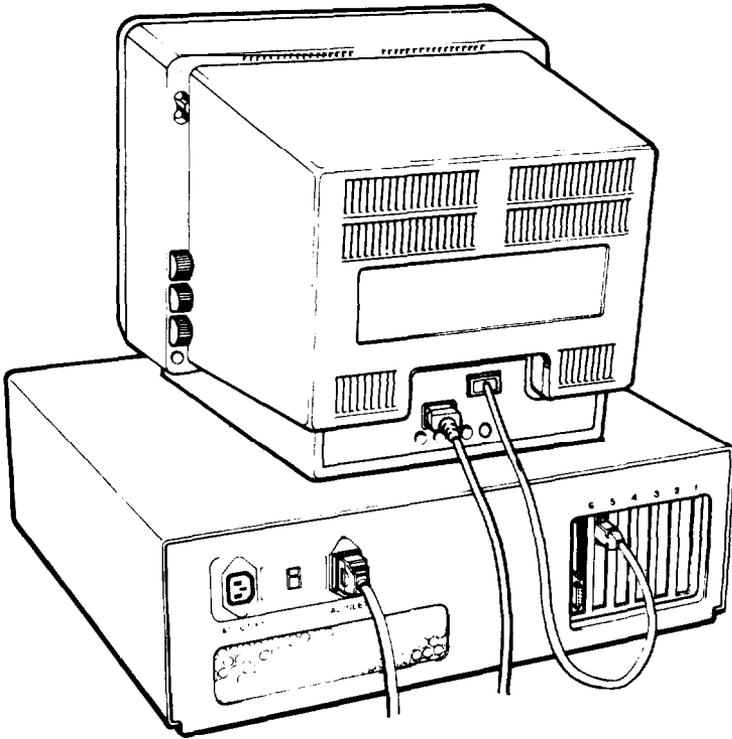

Figure 1-5. Connecting the *monitor*
3. Connect the appropriate end of the monitor cable to your monochrome or color/graphics card connector at the back of the main unit, as shown in Figure 1-5. If the plug has retaining screws, tighten them with a screwdriver.